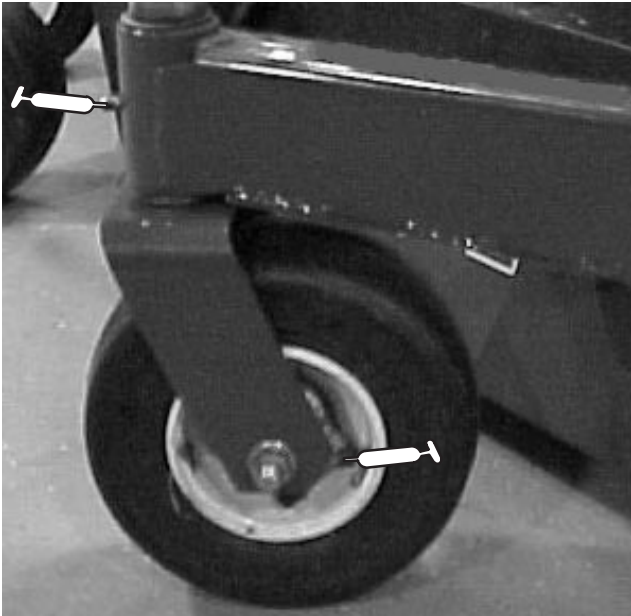
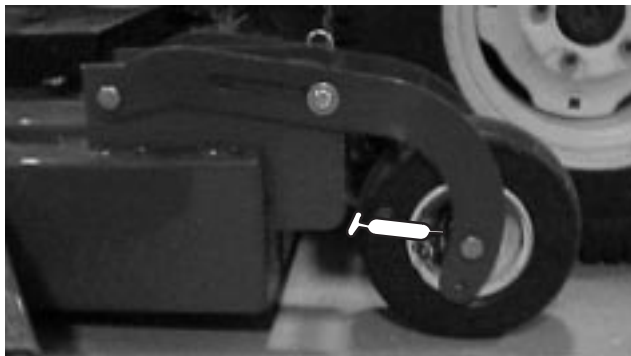

Figure 27
Figure 28
1. The cutting unit has bearings and bushings that must be lubricated, and these lubrication points are: front castor spindle bushings (2) (Fig. 27); front castor wheel bearings (4) (Fig. 27); rear castor wheel bearings (2) (Fig. 28); blade spindle bearings (3) (Fig. 29); right and left push arm ball joints (Fig. 29); drive shaft (3) (Fig. 29) idler arm pivots (3) (Fig. 30); and deck pivot pins (4) (Fig. 31)